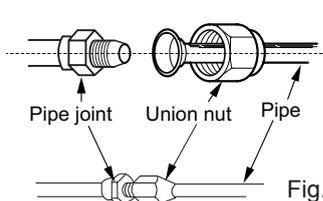

Fig.5
(1) Aim the pipe joint at the corresponding bellmouth.(As show in Fig.5)
(2) Pretightening the union nut with hand.